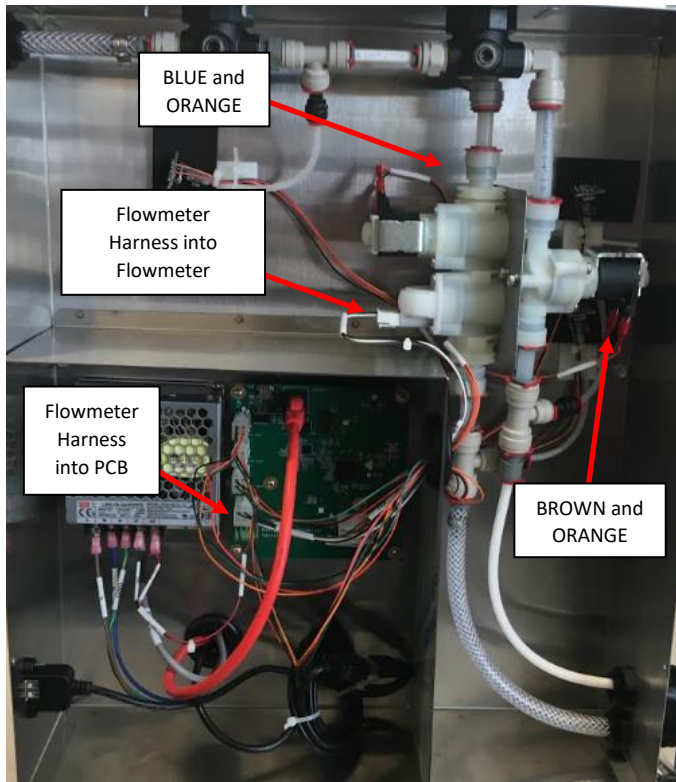
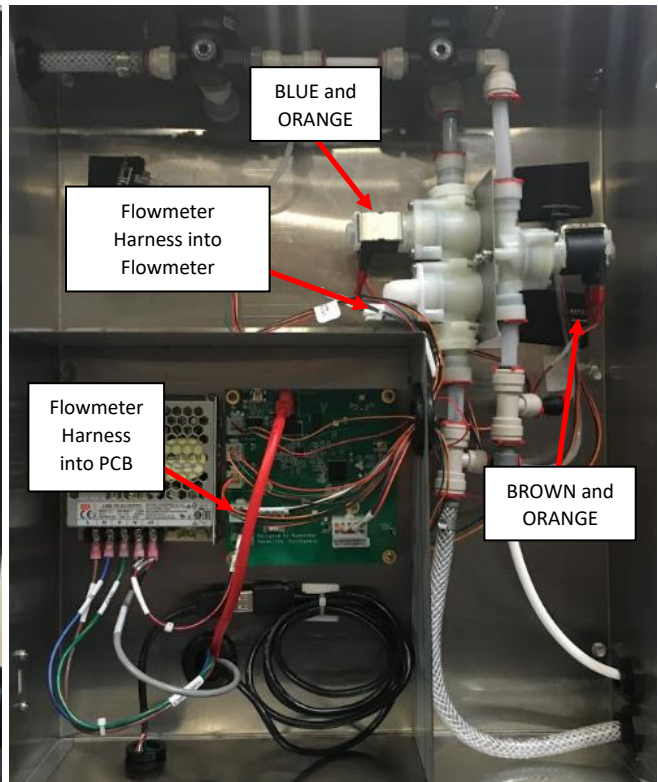

Figure 7a: Flowmeter Harness Shown-Old Configuration.
Figure 7b: Flowmeter Harness Shown-New Configuration.
2. Verify that the Solenoid Harness is plugged in correctly. Refer to **Appendix C: JoeTap NITCOM Wiring Diagram** for full wiring diagram. The BEVERAGE SOLENOID should have the BLUE and ORANGE quick connects attached and the NITROGEN SOLENOID should have the BROWN and ORANGE quick connects attached. **See Figure 7a and Figure 7b.**
3. Identify the Flow Meter and verify it is plugged in on both ends. One end into the flowmeter, the other on the PCB. **See Figure 7a and Figure 7b.** Also verify all other harnesses inside the Rear Enclosure are connected in proper locations. Refer to **Appendix C: JoeTap NITCOM Wiring Diagram** for full wiring diagram.